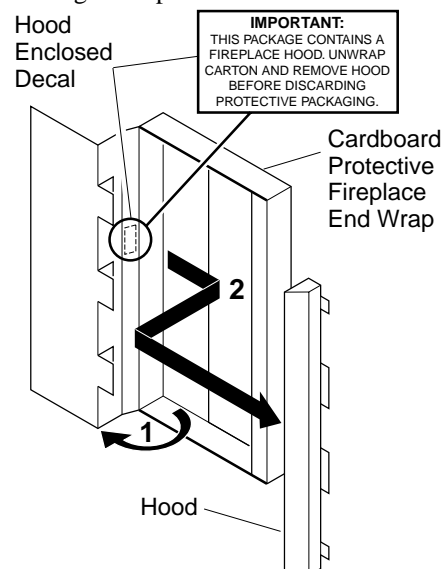

Figure 2 - Removing Fireplace Hood
IMPORTANT: The fireplace hood is inside the cardboard protective end wrap on the left side of fireplace (as viewed from front). A decal is on the outside of the cardboard end wrap stating hood is enclosed (see Figure 2).
2. Remove hood from cardboard protective end wrap as shown in Figure 2.